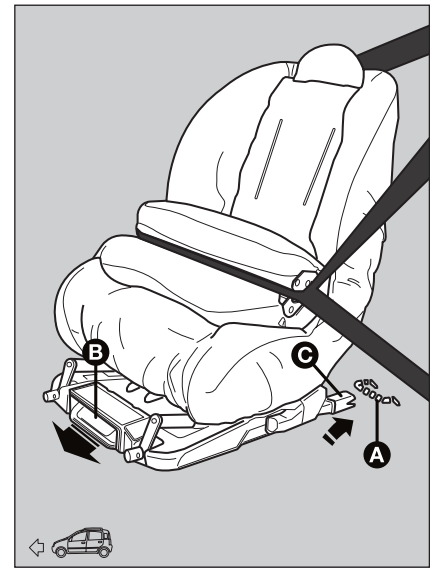

fig. 15
- check whether the release lever **B**-fig. 15 is at rest position (inward);